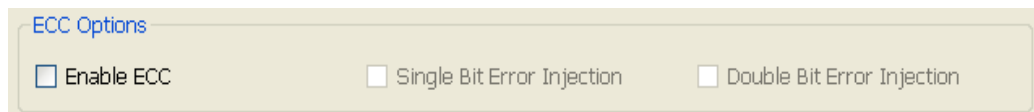

Figure 8-13: AXI4-Stream Interface FIFO: Page 4 - Error Injection Options
- Single Bit Error Injection and Double Bit Error Injection options of Native Interface FIFOs can be set using similar settings on Page 4 of the AXI4-Stream FIFO GUI, as shown in Figure 8-13.